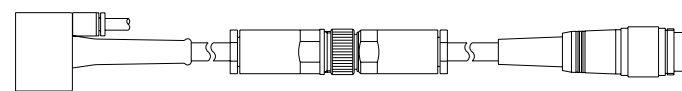

Fig. 1 Quick Disconnect Cord (EM25 - 5000 - J4 / J5 / J8)
- A quick disconnect cord is available for easy Brushless Motor removal (Fig. 1).